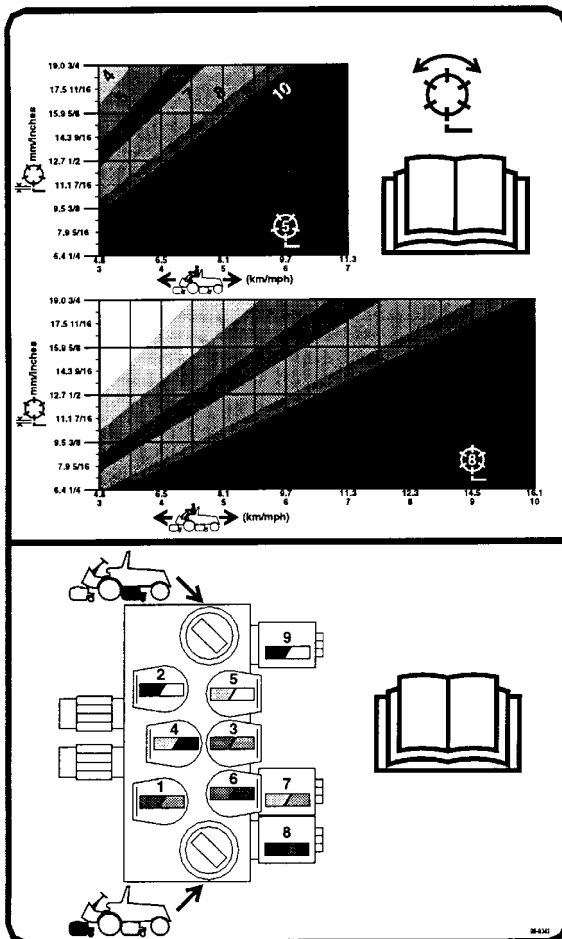

Figure 32
3. Using the appropriate graph (See graph figure 32) for 5 blade or 8 blade cutting units, determine the proper reel speed setting.